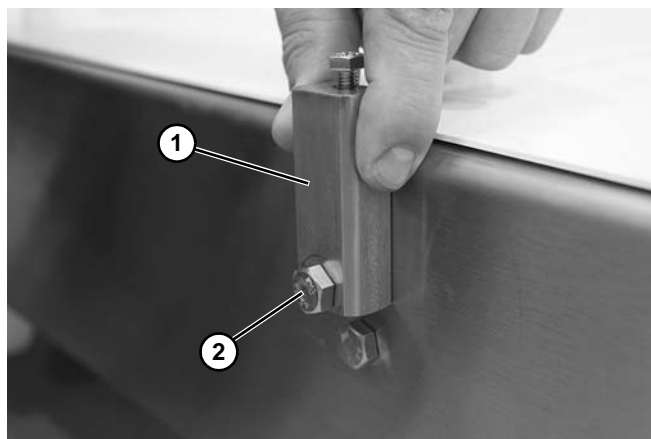

Figure 22
2. Assemble the mounting block (**Figure 22, item 1**) to the conveyor side with the screw (**Figure 22, item 2**) provided with the mounting block.